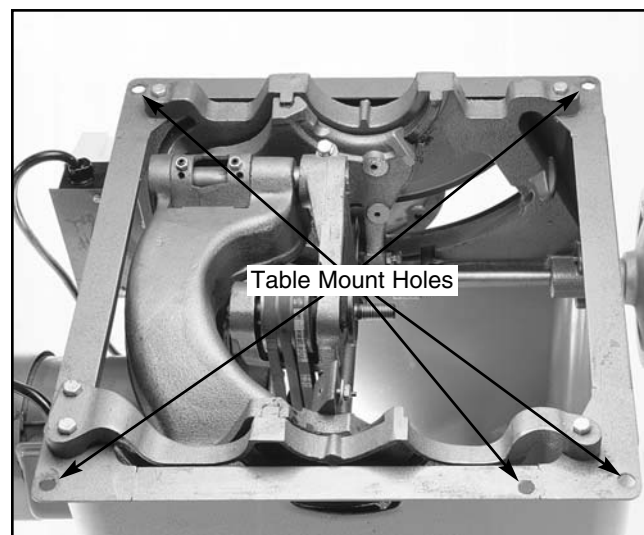

Figure 18.
6. If the difference is greater than $\frac{1}{64}$ ", loosen the four (4) table mounting bolts and adjust the table slightly. **Figure 18.** Repeat steps 1-5 until satisfactory. Do not forget to tighten the table mounting bolts when finished.